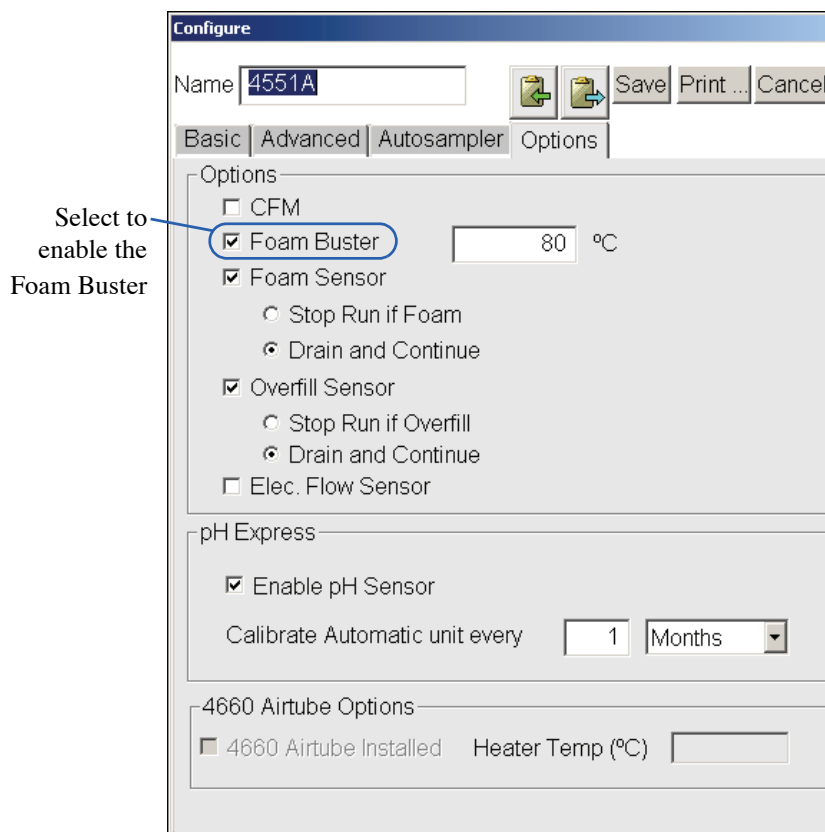

Figure 8.16. Options Configure screen
- From the Configure screen, press the **Options** tab to access the Options Configure screen (Figure 8.16).